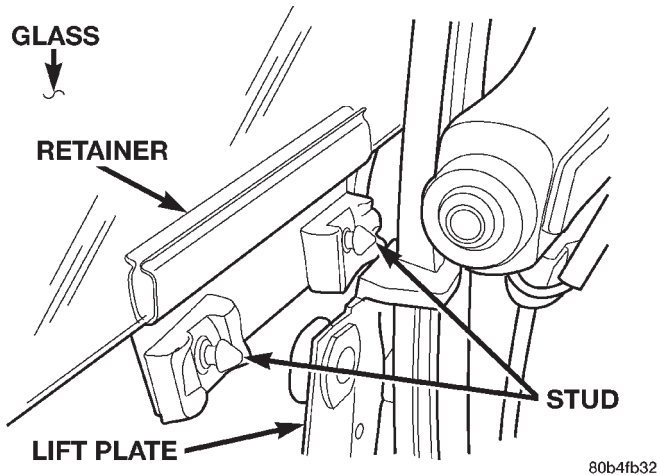

Fig. 33 Front Door Glass Retainer Studs
- (8) Carefully push bottom of glass panel outward to disengage glass retainer studs from lift plate (Fig. 33).
- (9) Lift glass upward and out of door.